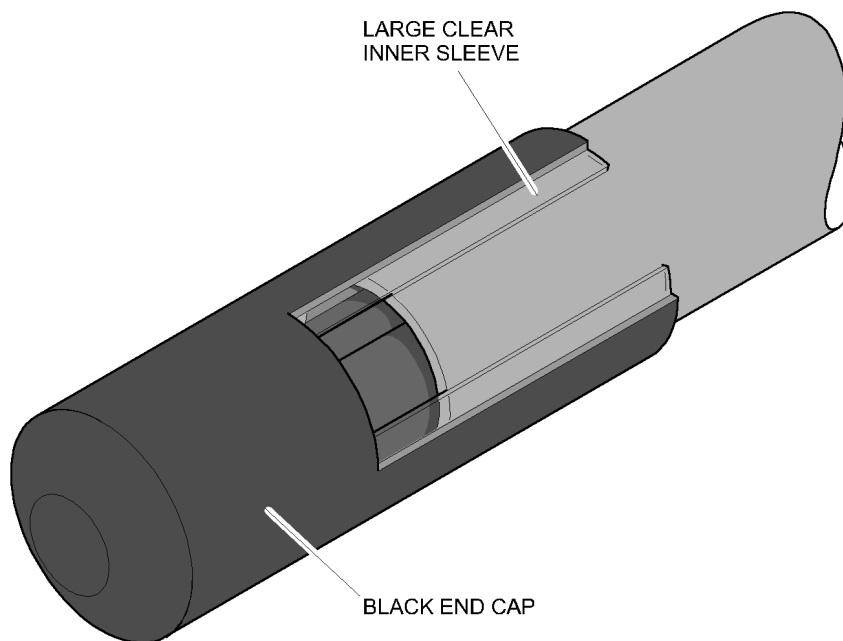

Fig. 7-13
5. Place the large clear shrink sleeve and then the black end cap over all four cable ends and shrink firmly into positioning applying the same temperature, refer to step 4. The end result is shown in Fig. 7-13.